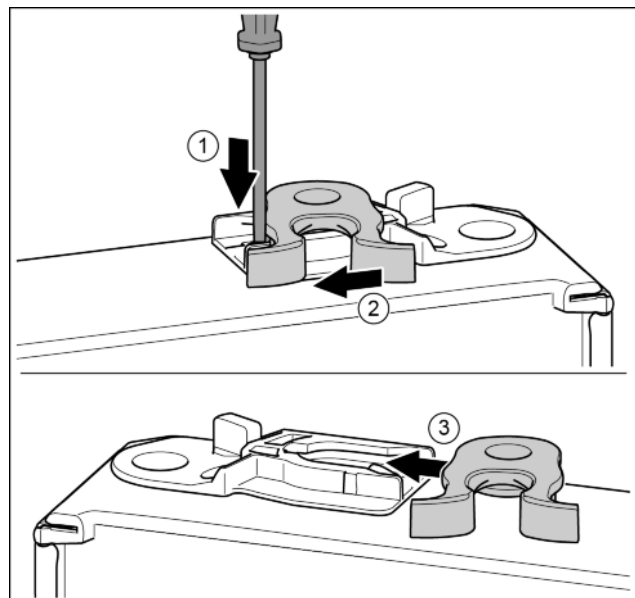

Fig. 14
- ▶ Push the lug downwards with a slotted screwdriver. Fig. 14 (1)
- ▶ Pull the door latch out of the guide. Fig. 14 (2)
- ▶ Push the door latch into the guide on the other side. Fig. 14 (3)